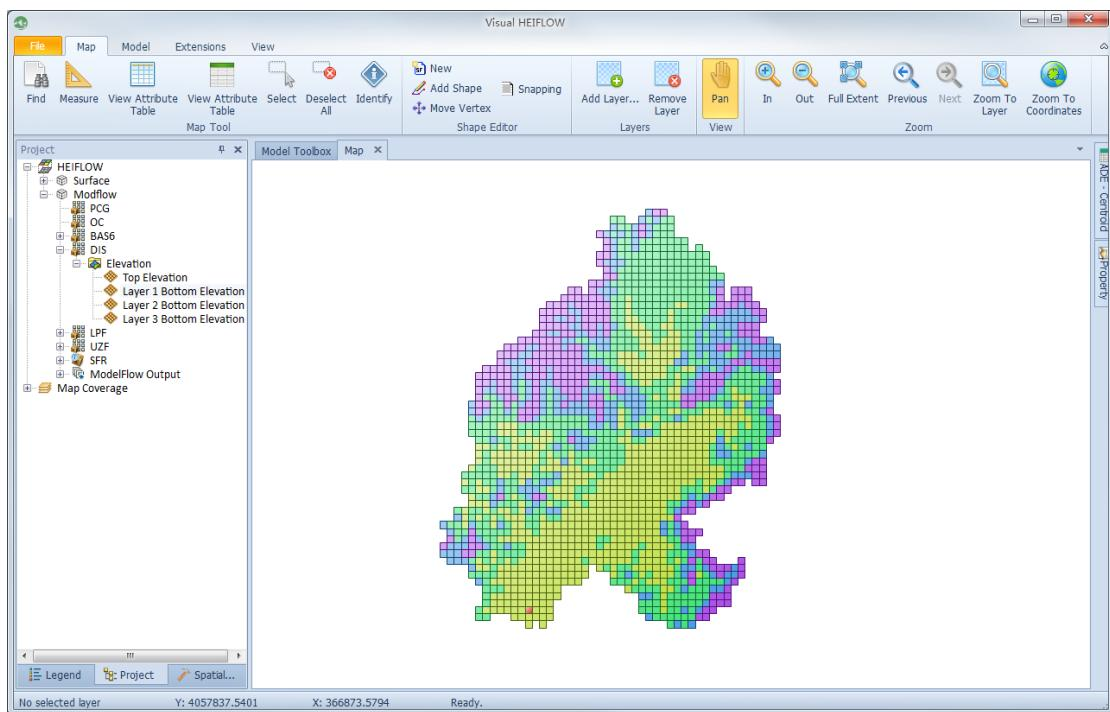

Figure 5-24. Spatial distribution of Layer 1 Bottom Elevation.
10) Click Run. After finished, right click on the “Layer 1 Bottom Elevation” in the Project Explorer, and select Map View to see its spatial distribution (Figure 5-24)